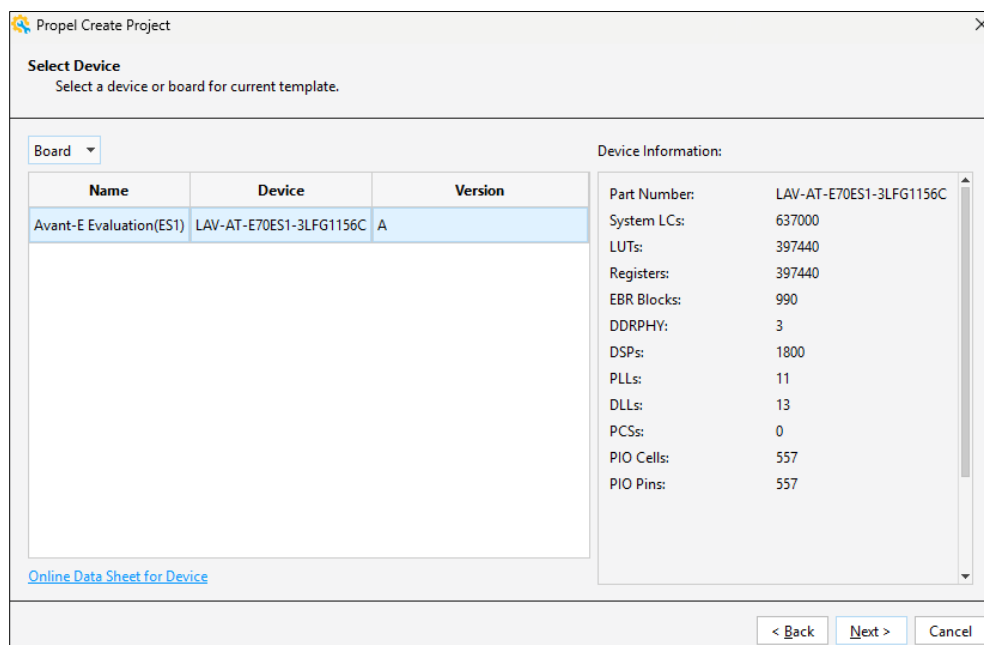

Figure 4.5. Select Target Device – Avant-E Evaluation (ES1)
- b. Click **Next**, then click **Finish** to complete the project setup (Figure 4.5).